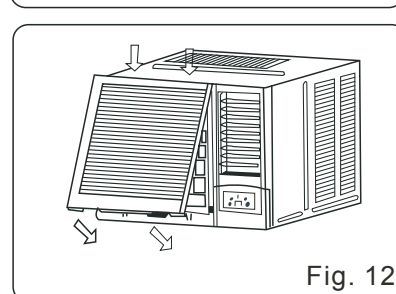

Fig. 12
2. Hang the front panel on the frame's buckle, then press the front panel into the frame's slot until you hear a click (See Fig.12).